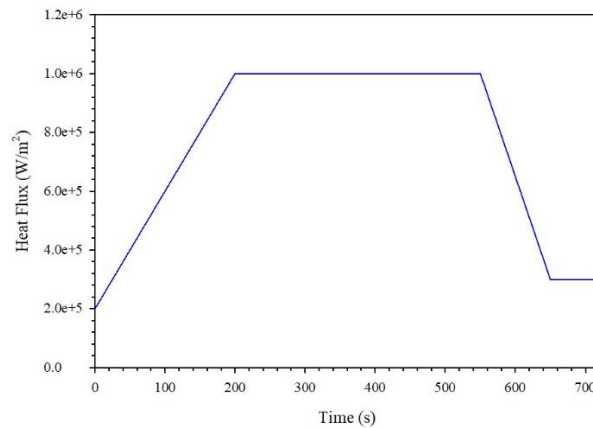

Fig. 1 Surface heat flux on exposed TPS surface
Problem: Develop a Finite Volume (FV)/Finite Difference (FD), 1D/2D code for designing the thermal protection system (TPS) for a base plate (as shown in the schematic figure on the next page) subjected to uniform heating on the exposed side as shown in the figure. Total time of exposure is 12 min, with heat flux, q_s'' , variation on front (exposed) surface through the duration of exposure, as shown in Fig. 1 on the next page. Initial temperature of the sample through the thickness is 300 K.